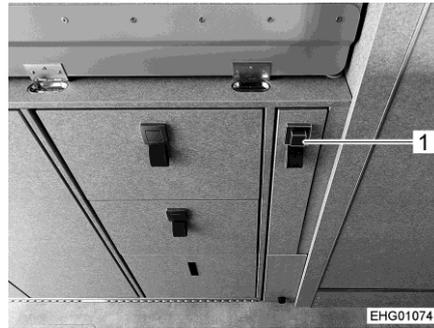

Fig. 59 Access assistance, stored away
- Push the push button (Fig. 59,1).